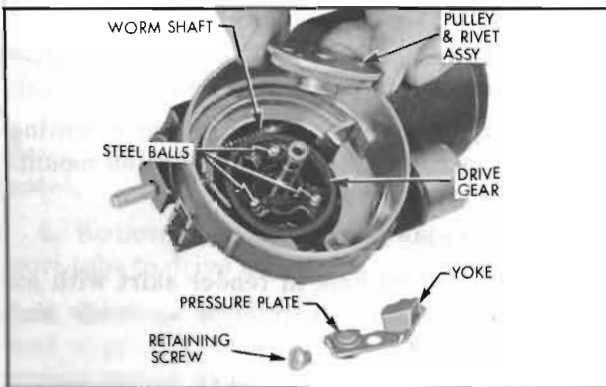

Figure 11-9—Complete disassembly of Drive Unit
(1) Remove the screw which holds the pressure plate shoe and yoke assembly. Remove the assembly.
(2) Remove the retaining ring and washers from the shaft extending through pulley and rivet assembly. Remove the pulley and rivet assembly. See Figure 11-9.
(3) Remove the 3 steel balls from the springs recessed in the drive gear. Invert the housing to remove the springs or use needle nose pliers to remove the springs.
(4) Remove the drive gear from the housing.